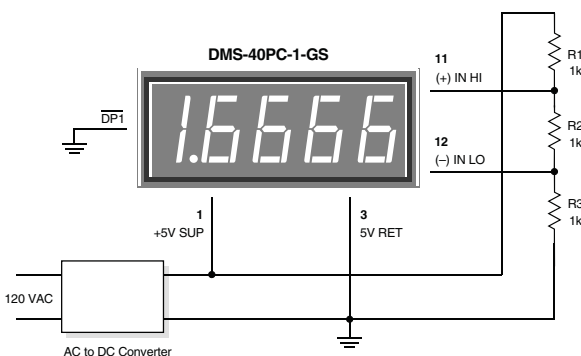

Figure 3. Differential Input Configuration
2. Differential Input Configurations: Differential inputs can also be measured with DMS-40PC meters as shown in the circuit of Figure 3. Differential inputs must also originate from power supplies that have a common ground with the meter’s 5V RETURN (pin 3). However, differential inputs usually have both terminals above and/or below 5V RETURN. Figure 3, though not necessarily a typical real-world application, does serve the purpose of illustrating the concept of a differential signal.